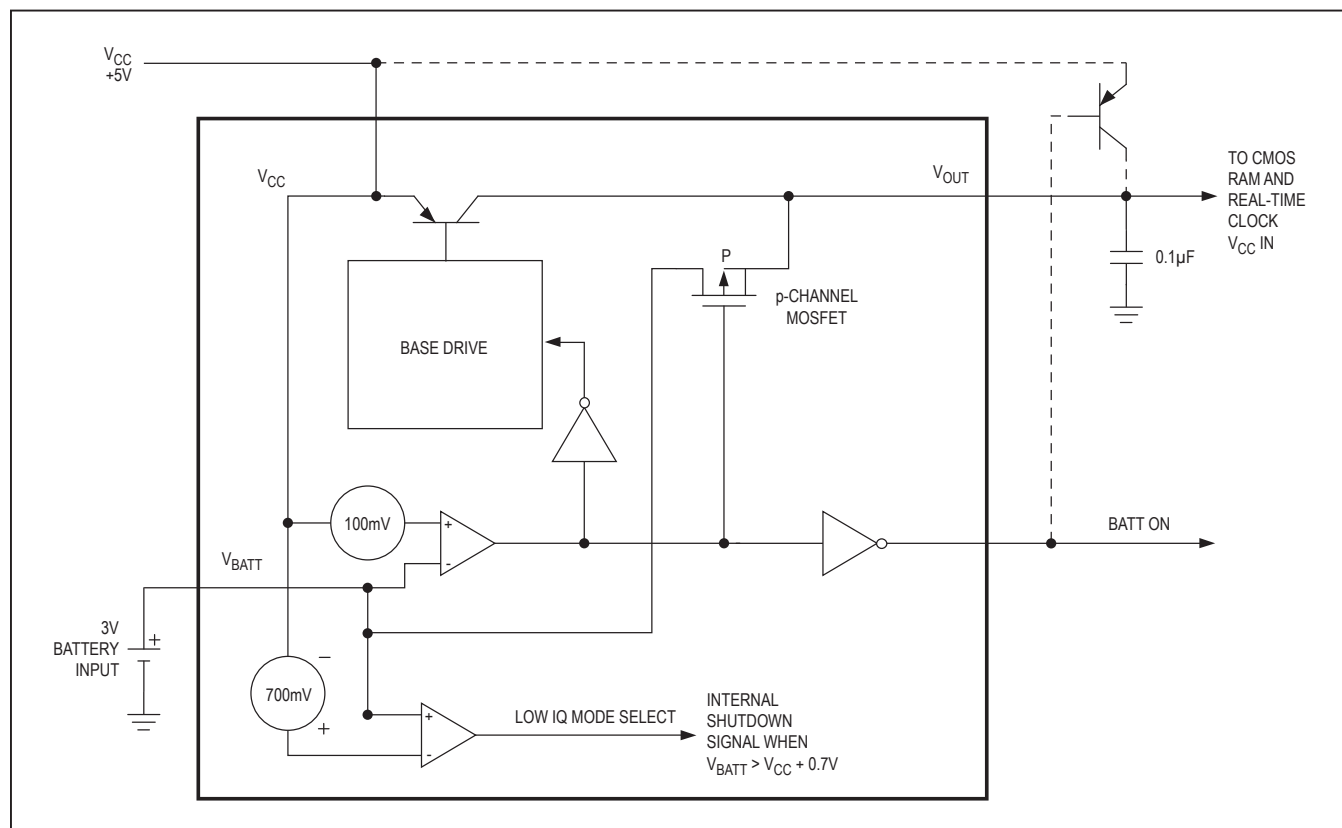

Figure 3. MAX696 Battery-Switchover Block Diagram
**Battery Switchover and  $V_{OUT}$  (MAX696)** The battery-switchover circuit compares  $V_{CC}$  to the  $V_{BATT}$  input, and connects  $V_{OUT}$  to whichever is higher. Switchover occurs when  $V_{CC}$  is 50mV greater than  $V_{BATT}$  as  $V_{CC}$  falls, and when  $V_{CC}$  is 70mV more than  $V_{BATT}$  as  $V_{CC}$  rises (see Figure 3). The switchover comparator has 20mV of hysteresis to prevent repeated, rapid switching if  $V_{CC}$  falls very slowly or remains nearly equal to the battery voltage.